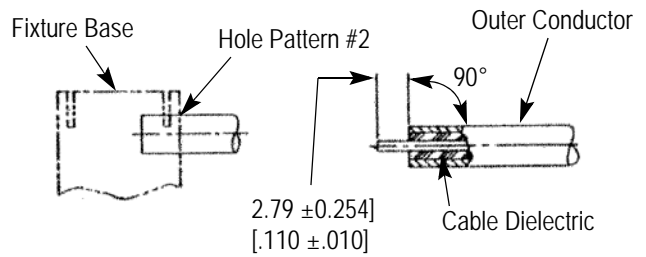

Figure 3
2.1. Cable Preparation (See Figure 3)